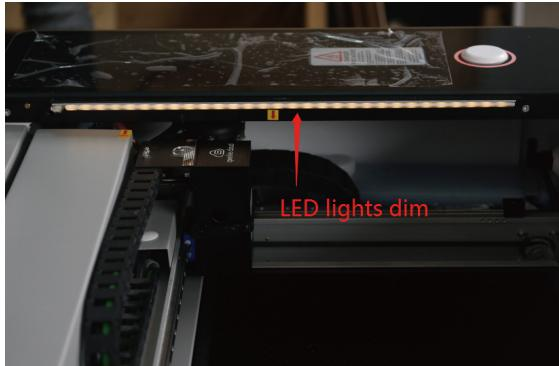
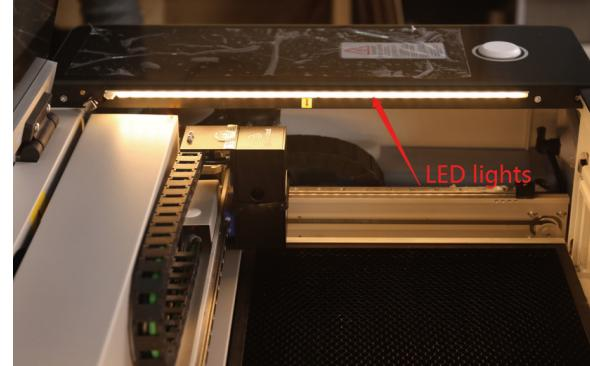

Figure 5
Figure 6
1) Check the door protection works normally or not: When the door is opened, the LED light is dimmed (as shown in Figure 5); When the door is closed, and the LED light is bright, it is normal work. (Figure 6)